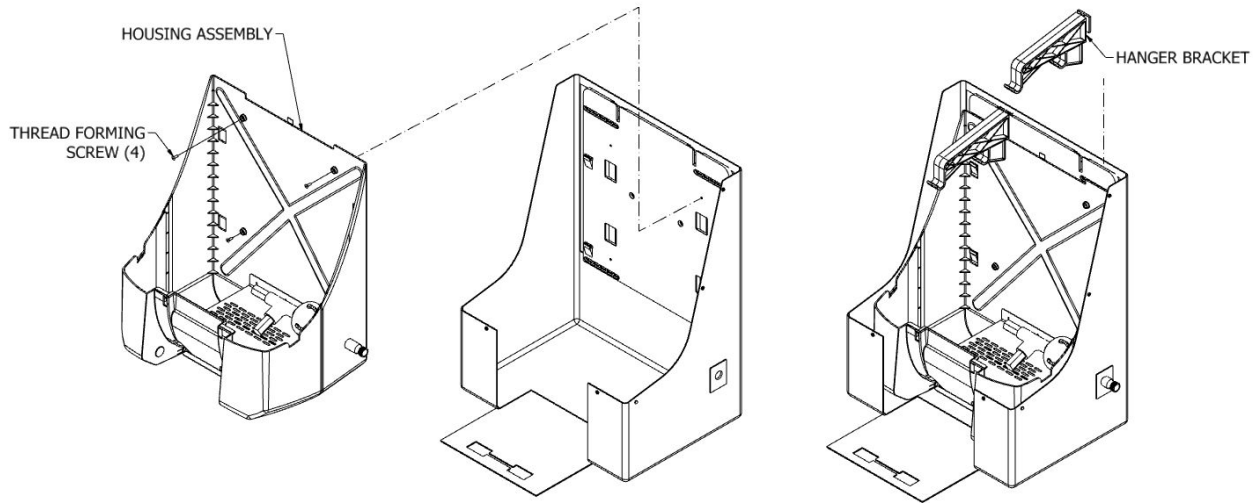

FIGURE 12
Step 2. Housing Assembly (Ref Figure 12)
- C. Secure Housing using Thread Forming Screw (4) provided.
Step 3. Hanger Brackets (Ref Figure 12)